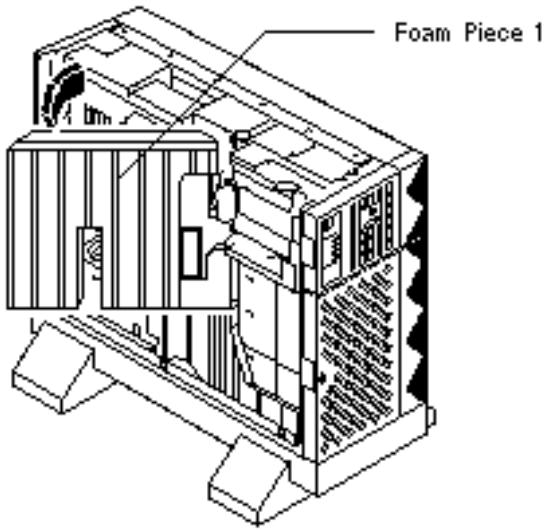

Figure 2–6 Pulling the Left Side of Foam Piece 1
6. Pull Foam Piece 1 away from the Netra 150 server (Figure 2–7).